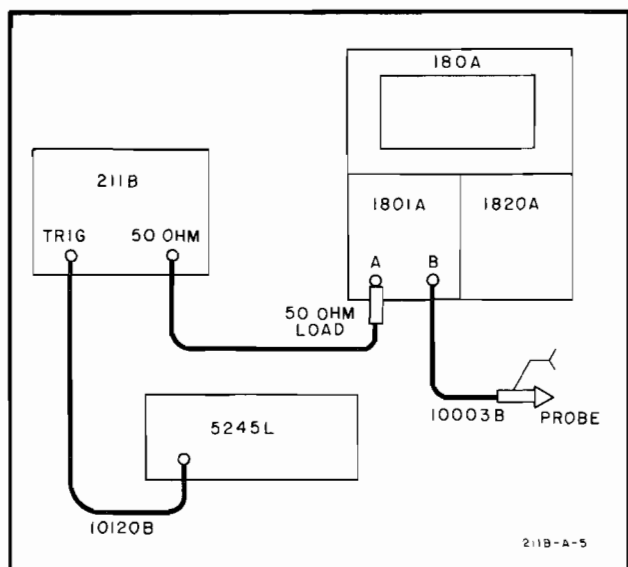

Figure 5-2. Frequency Check Test Setup
a. See Figure 5-2. Connect the required equipment as indicated.
a. With the Model 211B connected as shown in Figure 5-2, set the controls as follows:
a. Connect the equipment as shown in Figure 5-2.